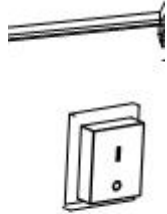

Figure.2
- a. Turn the power switch to position I and check that the fan starts running correctly. (Figure. 2)